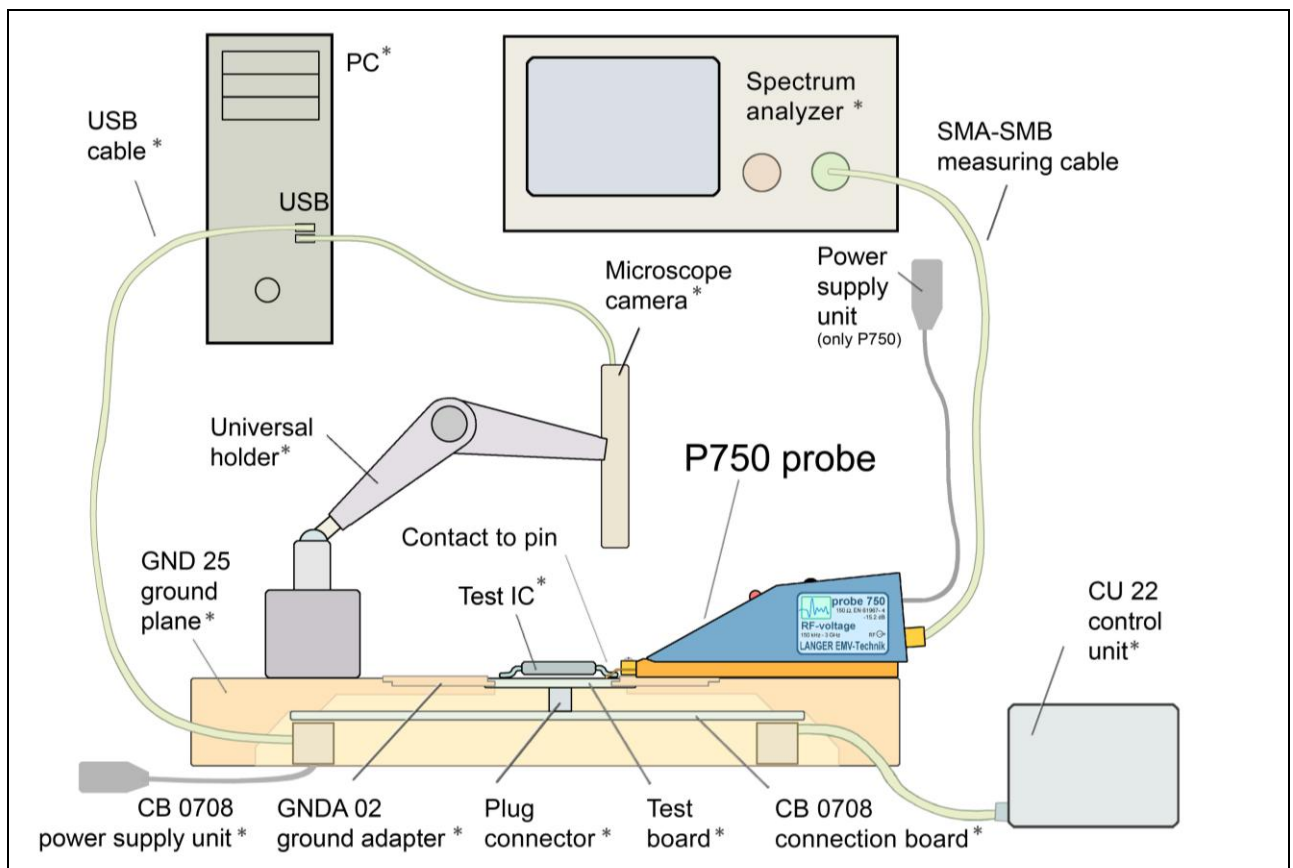
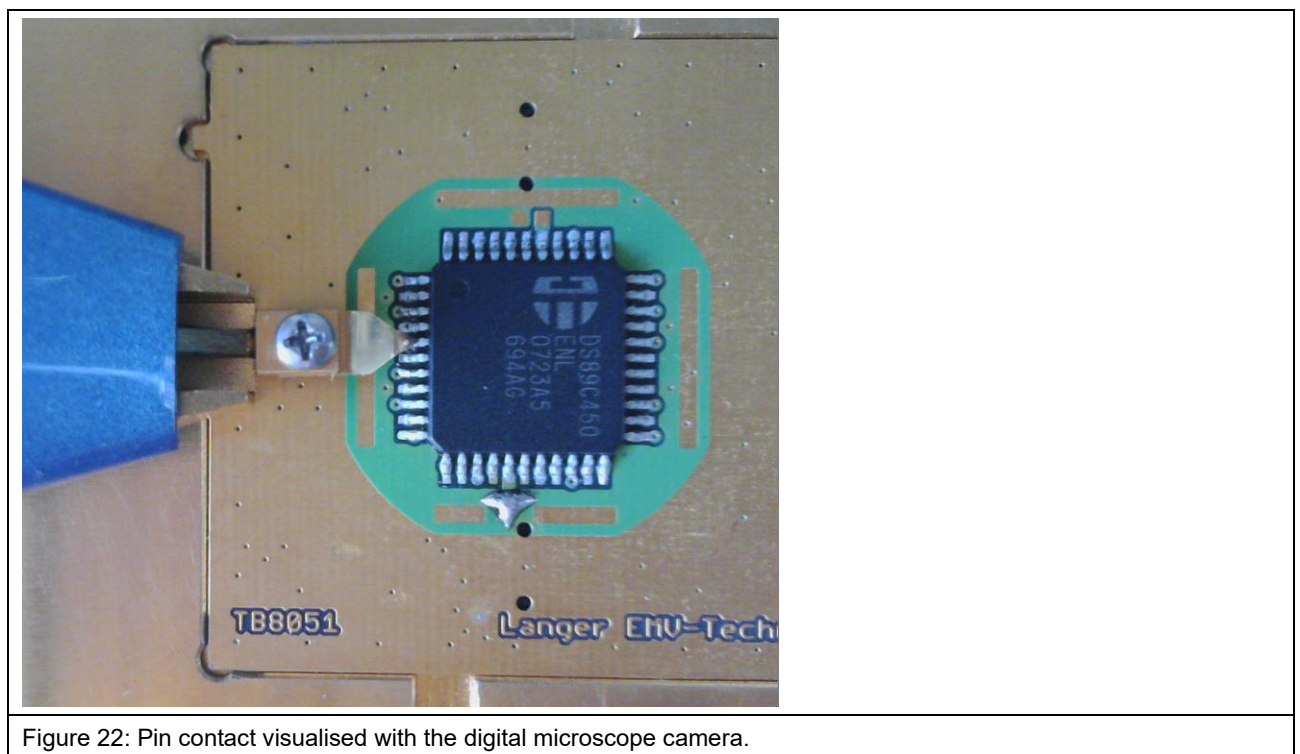

Figure 20: Measurement set-up to measure conducted emissions from integrated circuits (ICs) with the IC test system.
Figure 22: Pin contact visualised with the digital microscope camera.
**Figure 20** shows the measurement set-up to measure conducted emissions from integrated circuits (ICs). The test IC is mounted on the test board. The test board is inserted into the corresponding ground adapter such as GNDA 021. The signal and supply connections to the test IC are established through a plug connector on the test board. The test IC is supplied via the test board and controlled via the connection board. The associated Connection Board Control software can be used to control and monitor the test IC from a PC.
The P603-1 or P750 probe is placed on the GND 252 ground plane with the GNDA 02 ground adapter. The respective pin of the test IC can be contacted with the pin contact by moving the probe manually. The microscope camera (**Figure 20**) optically detects if and when contact is made. The camera's image is displayed on the PC monitor via the ChipScan-ESA software (**Figure 22**). The video image on the PC monitor enables the user to assess the connection to the respective IC pin. The spectrum analyzer displays the RF signal that occurs if and when contact is made. The input of the spectrum analyzer is connected to the SMB output of the probe via an SMA-SMB 1 m RF cable.